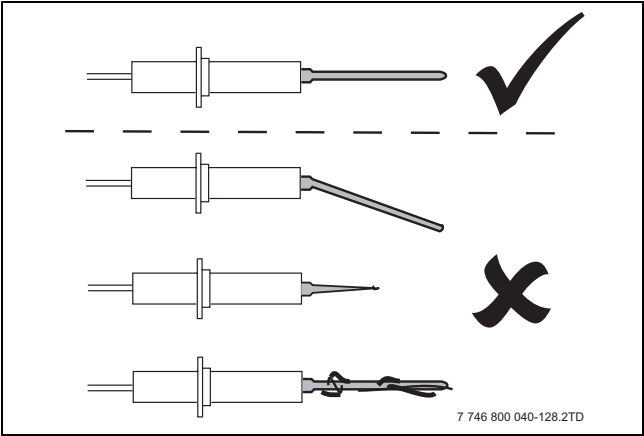
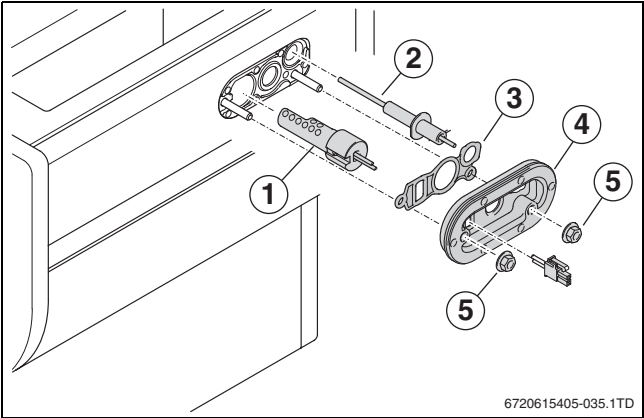

Fig. 111 Checking the ionisation electrode
Fig. 112 Replacing the ignition unit
- ▶ Check the individual components of the ignition unit (→ fig. 112) for wear or contamination (→ fig. 111).